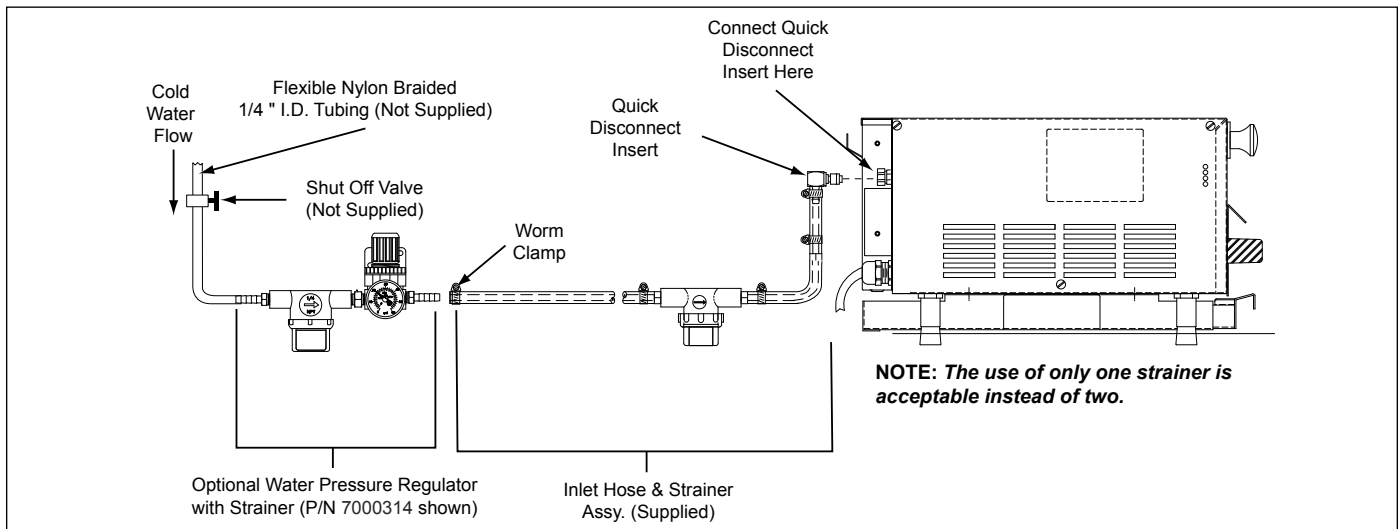

Figure 4. Connecting Water Supply
These units require a direct cold water hookup. A Water Inlet Hose and Strainer Assembly (Figure 4) is supplied.
1. Turn off the water valve (not supplied) that supplies water to the unit (Figure 4).
2. Connect the 1/4" (6.5 mm) I.D. Flexible Tubing to the outlet side of the Water Pressure Regulator and secure using the Worm Clamp (Figure 4).
NOTE: **A Water Pressure Regulator must first be installed (Figure 4). Failure to do so will result in poor steaming and possible flooding. For a single steamer, use Water Pressure Regulator P/N 7000314. For two adjacent steamers, use Water Pressure Regulator P/N 7000235. For Mfg. No. 9100933 use only P/N 0012001.**
7. Push the Quick Disconnect Insert into the fitting at the rear of the unit until it clicks (Figure 4).